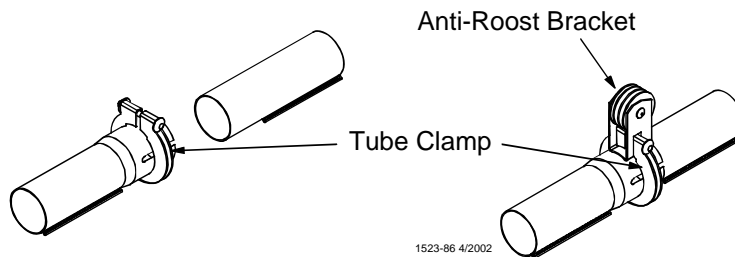

Figure 30. Assembling Feeders on the Tubes
4. Place a Tube Clamp Assembly or Clamp/Anti-Roost Bracket at each joint. **Figure 30** shows the standard Clamp and Clamp/Anti-Roost Bracket. Systems using 9' or 10' tubes require a Clamp/Anti-Roost Bracket every fifth joint.